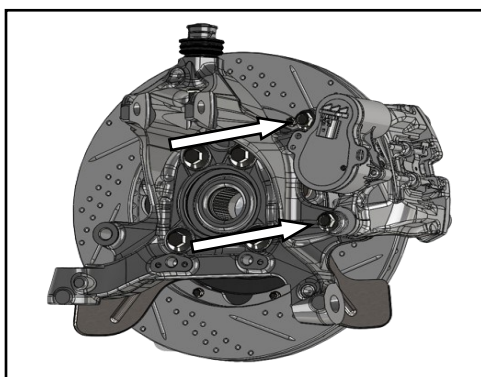

FIGURE 8. PARKING BRAKE CALIPER REINSTALLATION
1. Carefully reinstall the parking brake caliper to the knuckle using the existing hardware removed in step 3 on the previous page (Figure 8). Torque the hardware to manufacturer specifications to secure the parking brake caliper to the knuckle.